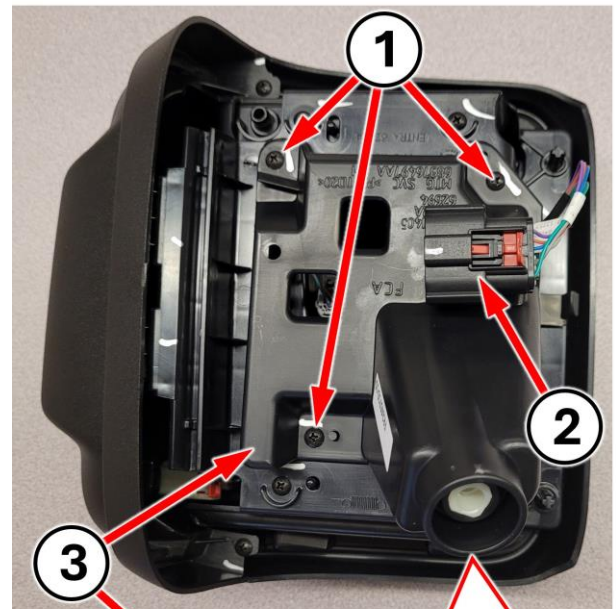

Figure 19 – Lamp Mounting Bracket
21. **NEW lamp:** Position the mounting bracket (3) to the lamp and engage the retainer (4) (Figure 19).
22. **NEW lamp:** Install and tighten securely the three screws (1) securing the lamp mounting bracket (3) to the lamp housing (Figure 19).